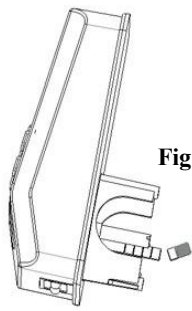

Figure 10
2. Check whether the **Locking Bar** is too long. If yes, take the **Front panel Assembly** off and cut away the excess part of the **Locking Bar** (see *Method for Cutting Locking Bar*). As shown in **Figure 10**.